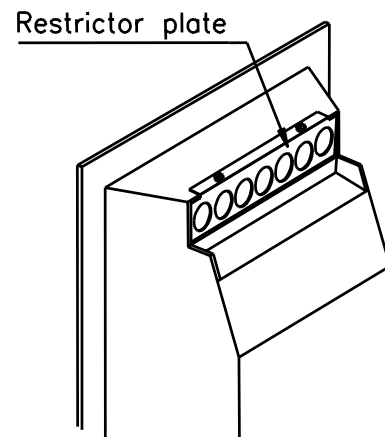

Fig.5 Fitting the restrictor plate
2. Fit the restrictor plate with its bottom edge inside the flue outlet, using 2 screws provided, as shown in Fig. 5.
1. Fit the restrictor plate with its bottom edge inside the flue outlet, using 2 screws provided, as shown in Fig. 5.
- and repeat the test. If spillage is still detected, remove the restrictor plate if fitted (see Fig. 5) and retest for spillage. If spillage is still detected the cause must be discovered and the fault corrected. If the fault cannot be corrected, disconnect the gas supply to the appliance and seek expert advice. Possible causes of spillage are chimney restrictions, or an incorrect cowl or terminal.